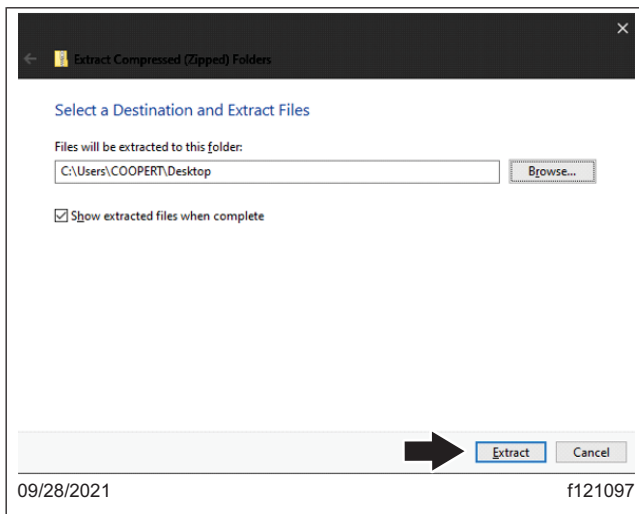
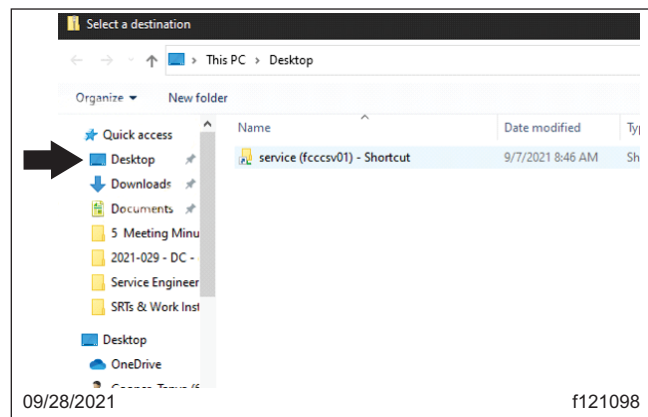

Fig. 7, Extract Compressed Folders Window
Fig. 8, Selecting the Destination for the Extracted Files
8. In the next screen, make sure the destination for the extracted files is 'Desktop.' If not, select 'Browse,' then select 'Desktop.' Select 'Extract.' See Fig. 7 and Fig. 8.